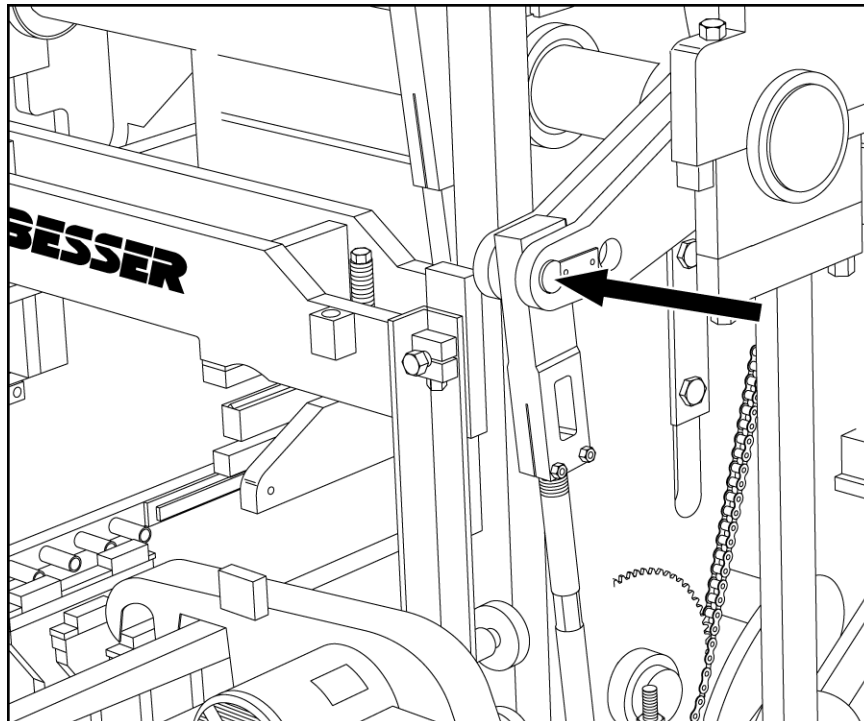

Figure 4.56 PALLET RECEIVER SHAFT POSITION
4.4.4 The following items should be positioned as shown on figures 4.56 and 4.57:
- a. Pallet receiver shaft - position pins in outside holes (long stroke)(see figure 4.56).